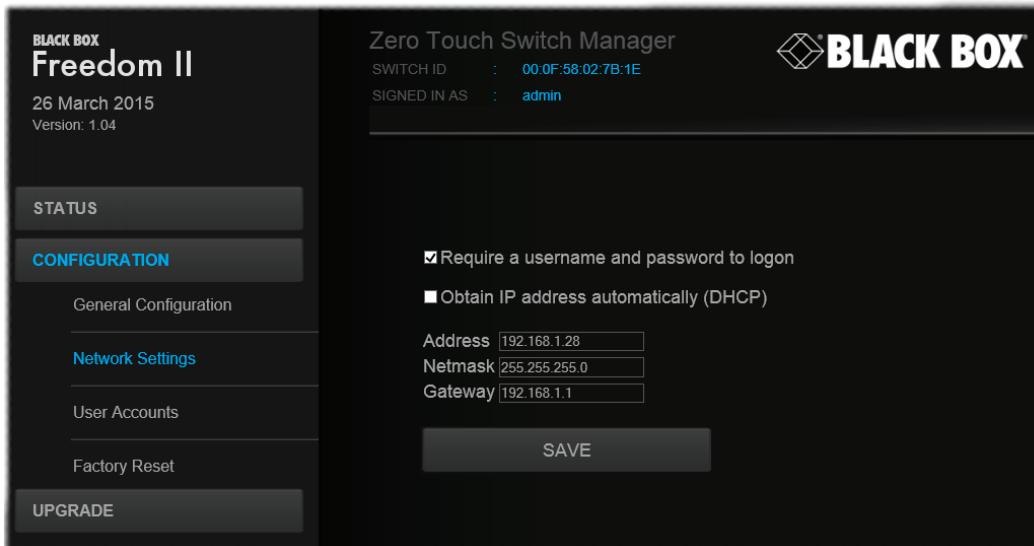

Figure 4-4. The Network settings page
3. On the left side, click the **Network settings** option. See Figure 4-4.